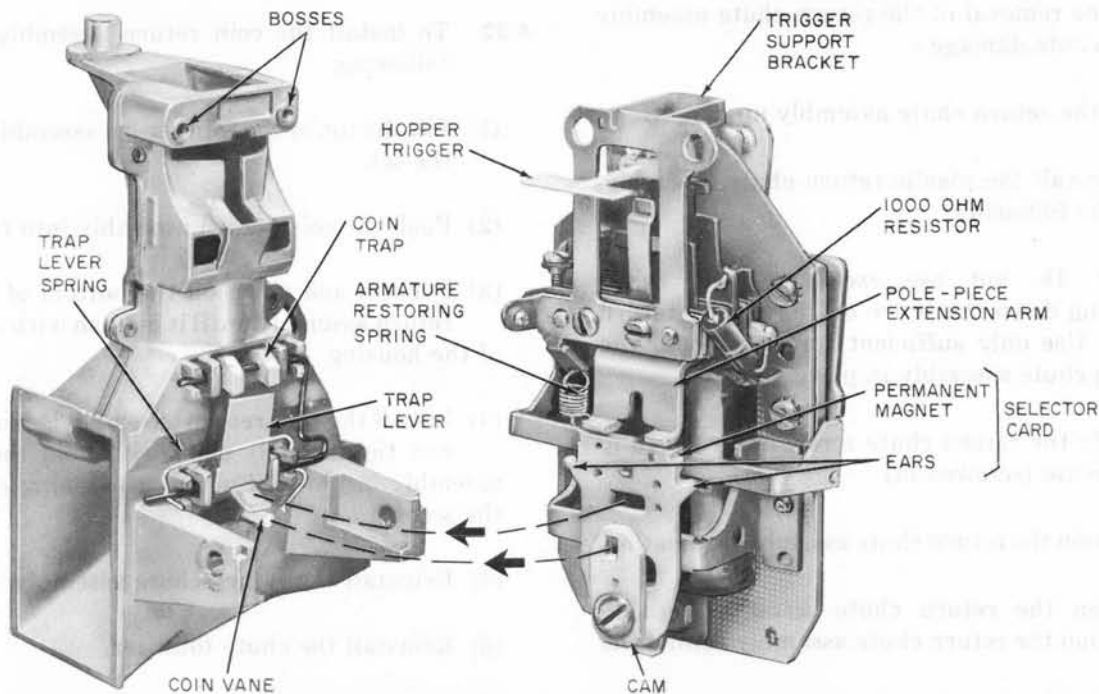
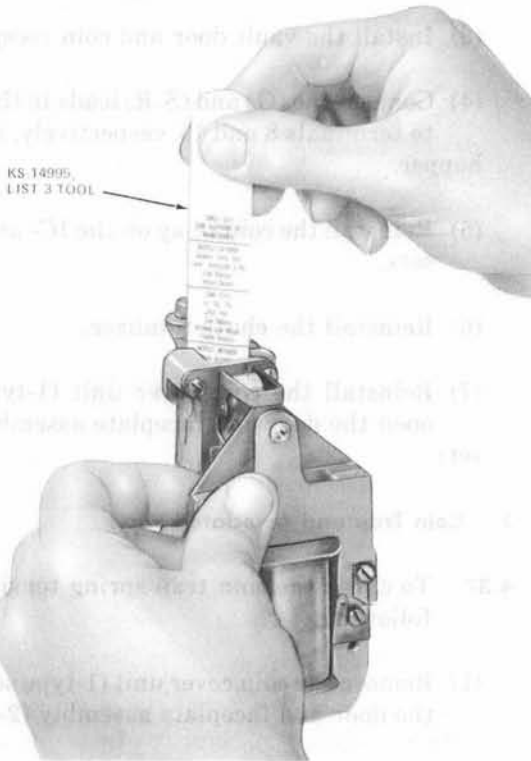

Fig. 56—Coin Hopper and Rear View of Coin Relay
Fig. 57—Trap and Vane Release Test
- (5) Remove the two slotted hex head screws on the sides of the coin relay.
- (6) **Warning: Do not damage the hopper trigger. Check that the hopper trigger shown in Fig. 56 is in the horizontal (up) position and pull off the coin relay.**
4.34 To install the 1A coin relay shown in Fig. 56, do the following:
Note: Ensure that the top screws are tightened first so the bosses shown in Fig. 56 can be properly seated.
- (1) Remove the coin cover unit (1-type set) or open the door and faceplate assembly (2-type set).
- (2) Remove the chute totalizer.
- (3) Remove the return chute.
- (4) Remove the coin relay.
- (5) Operate the coin relay armature manually to its fully closed position by pushing down on the selector card ear as shown in Fig. 56.
- (6) Allow the relay to slowly return to its nonoperate position.
(7) Insert a KS-14995, List 3 tool into the hopper as shown in Fig. 57. Apply firm downward pressure (about 1/2 pound) with the tool on the coin trap in the hopper throat; but **do not force** down enough to bend or break the parts. If this firm, but not excessive, downward force does not cause the trap lever spring to release the trap, the existing spring is operating adequately. If the armature of the coin relay moves by this action, a new 840157333 wire spring shown in Fig. 58 should be installed. However, if the armature of the coin relay still moves with the preceding test after spring replacement, the trap lever must be replaced.
4.38 To replace the 840157333 trap lever spring shown in Fig. 57, do the following: